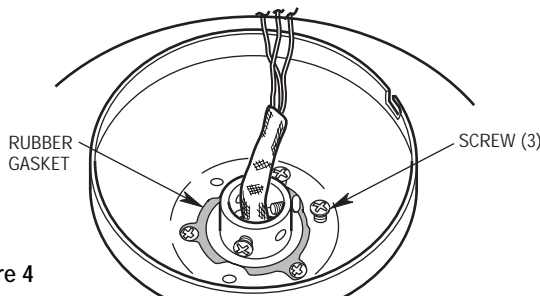

Figure 4
- 3. Gently pry the decorative cap (Figure 2) from the ceiling cover. Align the holes in the ceiling cover with the holes in the motor housing and secure using the three screws (Figure 4).